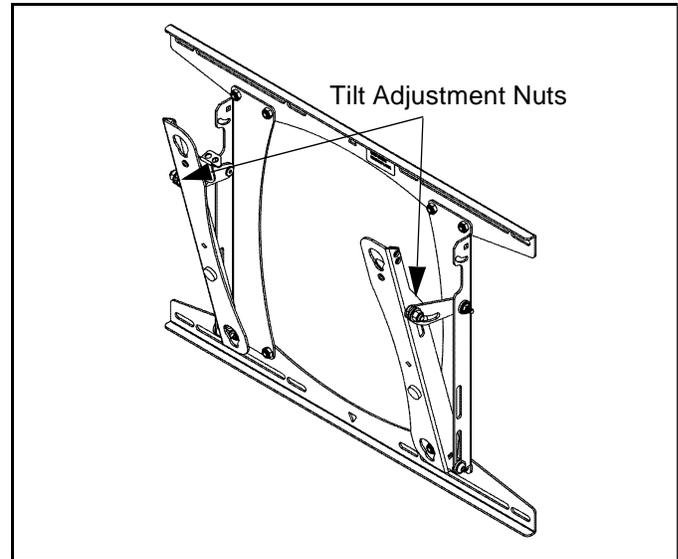

Figure 9
1. Using 1/2" socket wrench, loosen the tilt adjustment nut on both arms of the mount (See Figure 9).